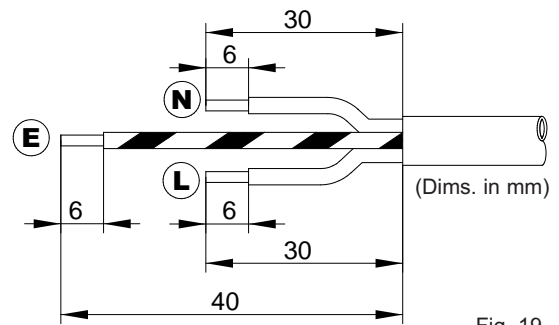

Fig. 19
2. Strip and prepare cable sheath and insulators as shown in Fig. 19.